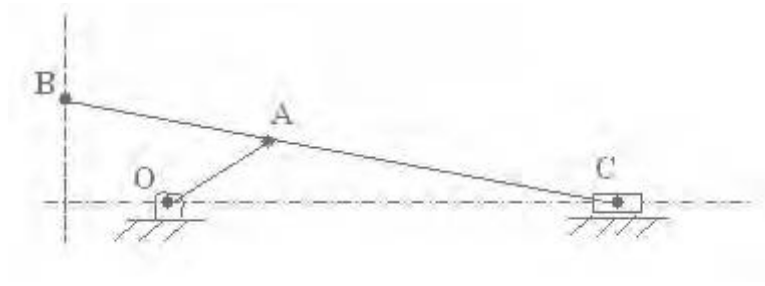

Figure 7
7. In the figure 7 shown OA and AC are the crank and connecting rod respectively. B is a point lying on the extension of AC. Find the length of the crank in order that the point B traverses approximately along a straight line when the connecting rod rotates from angle θ_1 to angle θ_2 . [15]